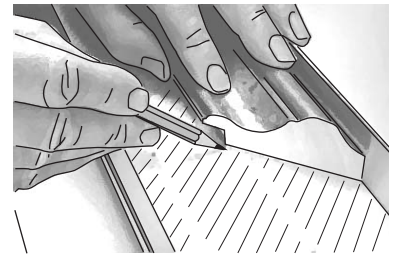

fig. 6 When the inside edge of the rebate crosses the line.
5. To read the scale, slide the mitred piece along the table until the inside edge of the rebate aligns with the desired length on the scale. Add approx. 2mm extra for rebate clearance. ie: allowance so that your artwork will fit easily into the made-up frame. See fig. 6